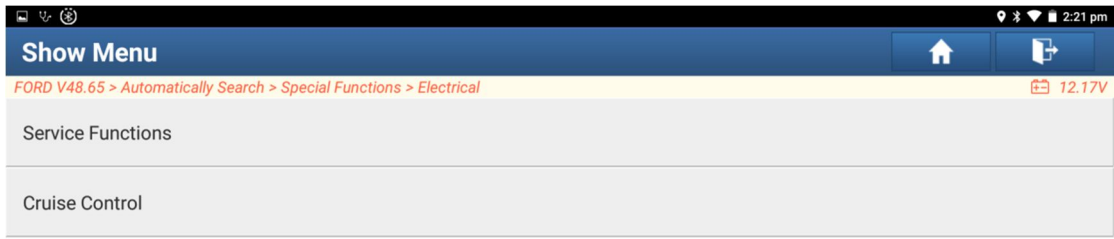

Figure 6
5. Select [Service function] (Figure 6).